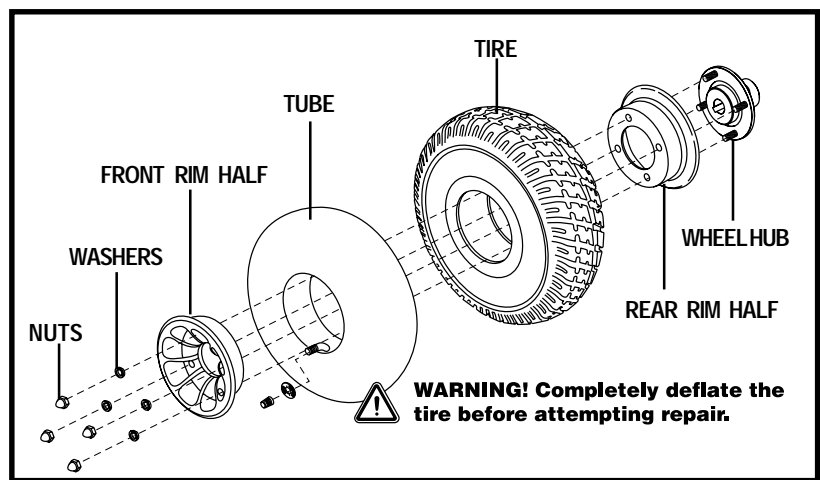

Figure 28. Jazzy 1103 Ultra Drive Wheel Disassembled
6. Remove the nuts and washers from the wheel hub to separate the rim halves. See figure 28.